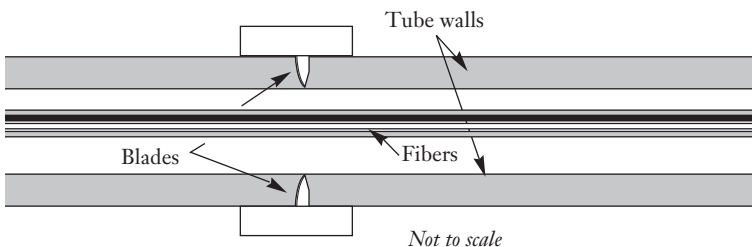

Figure 11
7.2 It is recommended to adjust the blades to maximize the score depth without penetrating the tube (Figure 11). *This step is critical to protect the fibers inside the tube.*